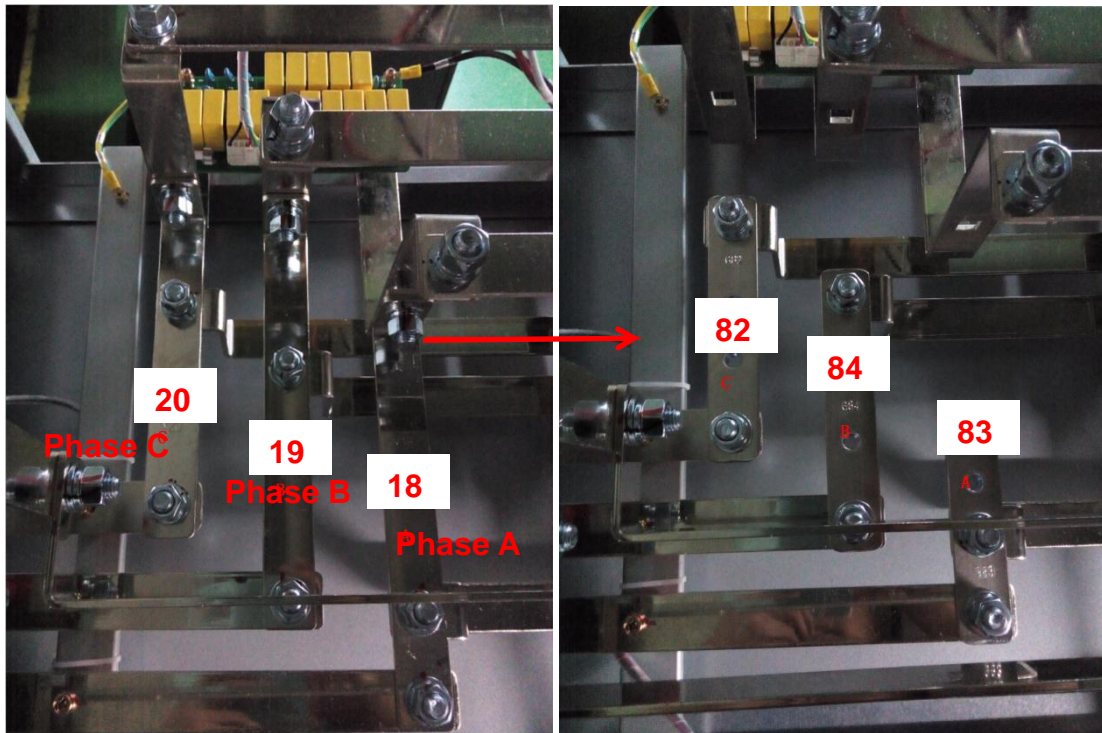

Figure 2 New copper bar installation
- Remove the copper bar 20, then install the bar 82(Prepared for the dual input option). Then remove bar 19 and 18, install the bar 84 and 83, as is shown in figure 2.